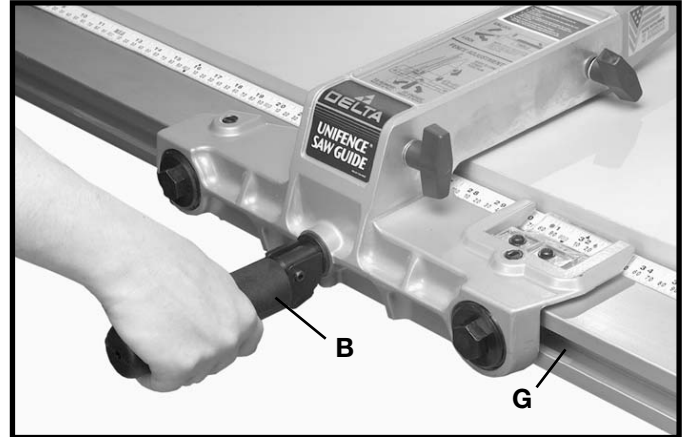

Fig. 87
3. While pushing in on handle, turn to the right indent position as shown in Fig. 87. This will prevent fence clamp from sliding out of the channel (G).